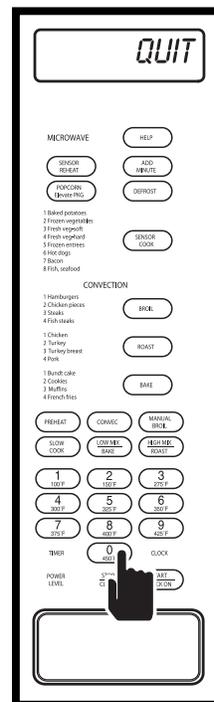

Figure 3-69.
5. Press the number 0 key. Display will flash "TO - QUIT - DEMO - PRESS - CLEAR". (See Figure 3-69).